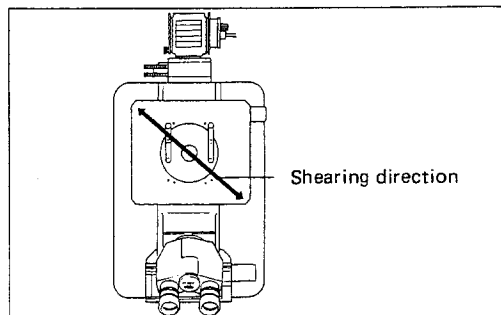

Fig. 64
- The seeing of the differential interference image is directional, and in this instrument the shearing is realized in the direction shown in Fig. 64.